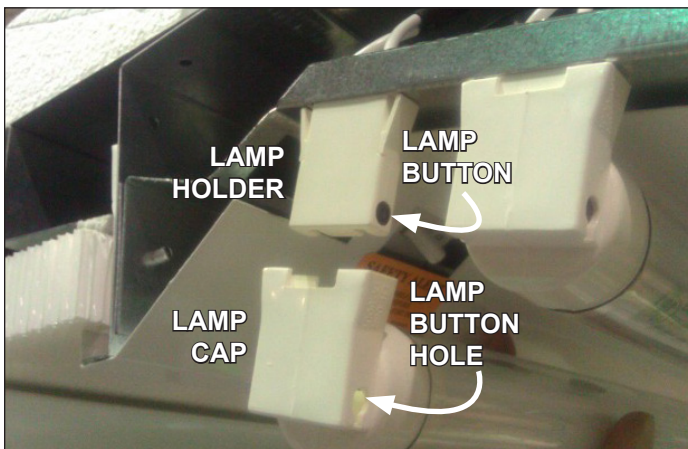

Fig. 9 Remove old T-8
1. Simultaneously pull down at both ends of the old T-8 light to remove from the lamp holder (Fig. 9). Remove the lamp caps and plastic shield from the old light, then discard the light.